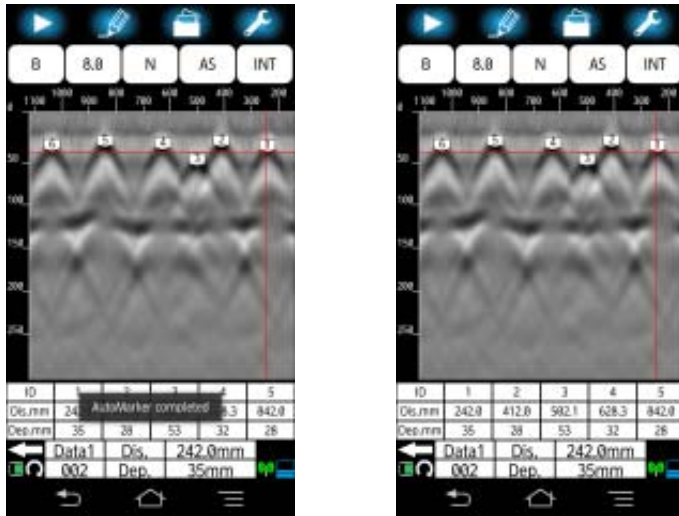

Figure 6-14 AutoMark completion
- (7) The message in the above step automatically disappears, and a message **“AutoMark competed”** is shown briefly, and the markers on the detected rebar are displayed on the main screen as shown in Figure 6-14. Here the cursor moves on the position of the marker number 1.